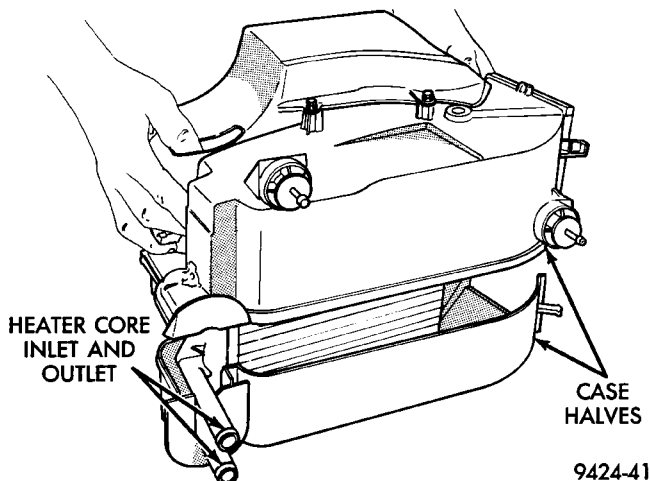

Fig. 48 Case Separation
(4) Place the unit in the upside down position. Then separate the two halves of the module (Fig. 48).